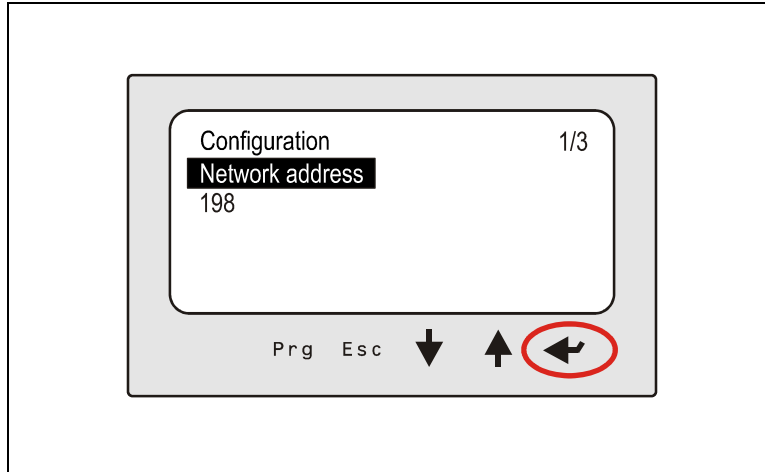

Figure 8 - Configuration > Network Address
12. Select **Configuration** and press **Enter** to access the first parameter, **Network address** (*Figure 8*).